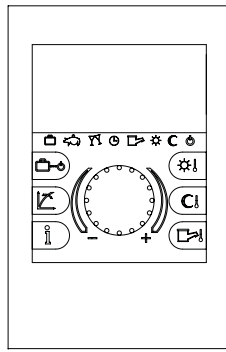

Fig. 1-7
• Zone manager (Fig. 1-7). In addition to the functions described in the previous point, the zone manager allows to control all the important information regarding operation of the appliance and the heating system with the opportunity of easily intervening on the previously set parameters without having to go to the place where the appliance is installed. The climate chromothermostat incorporated into the remote panel enables the system flow temperature to be adjusted to the actual needs of the room being heated, in order to obtain the desired room temperature with extreme precision and therefore with evident saving in running costs. It also allows to display the effective room temperature and the external temperature (if external probe is present). The zone manager is powered directly by the cascade heat adjuster via 2 wires.